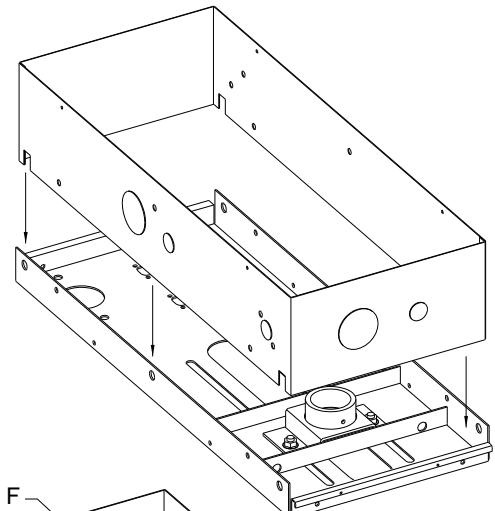

Figure 2
5. Place the Plenum Cover inside of the CPM-ACP. See Figure 2.